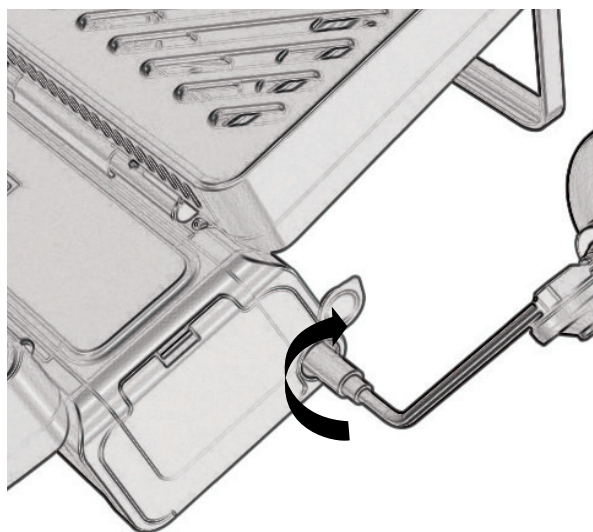

FIG. 03
4. Rotate the locking mechanism clock-wise hand tight. (Fig. 03)